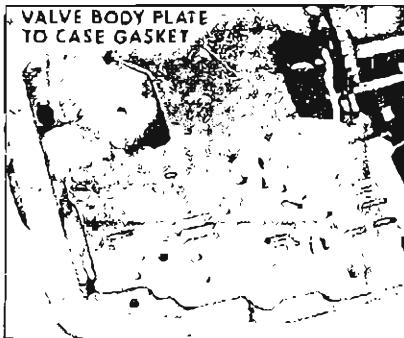

Figure 5-334
1. With transmission in horizontal position, install valve body to plate gasket. See Figure 5-334.